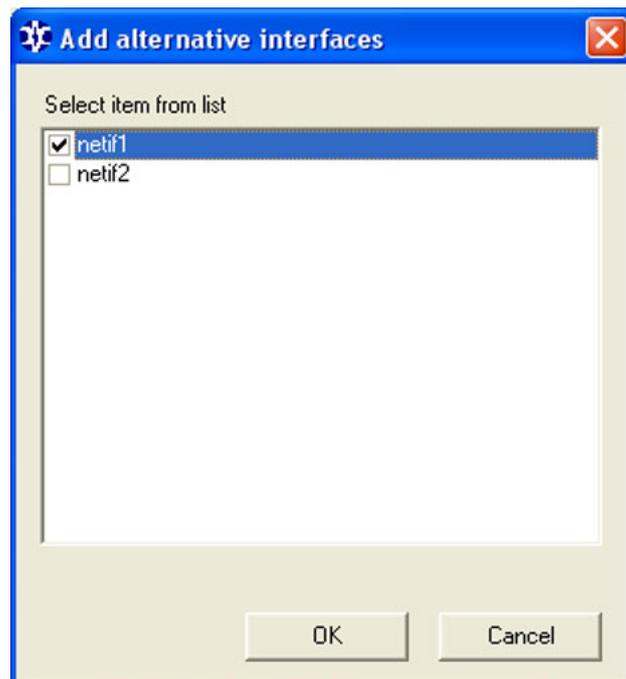

Figure 93 Adding Alternative Interfaces
2. Click **Add** in the **Alternative Interfaces** frame. The **Add alternative interfaces** dialog shown in Figure 93 on page 215 is displayed.